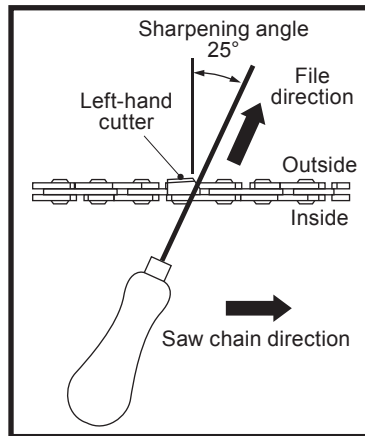

**Fig. 18**
5. File at an angle perpendicular to the bar, and at an angle of 25° to the direction of travel (Fig. 18).